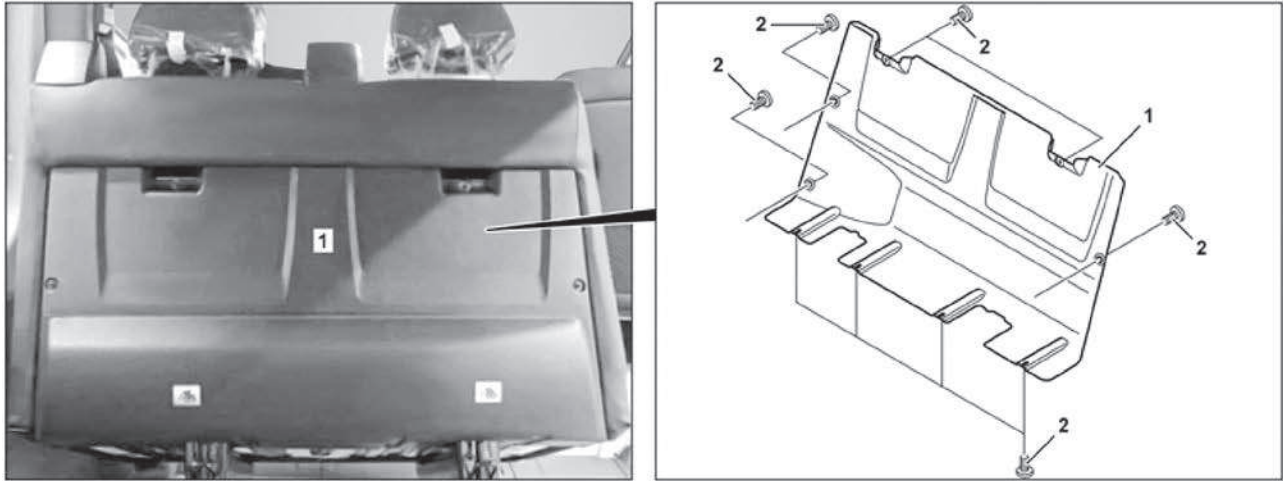

Figure 1
1. Remove bolts (2, Figure 1) then remove seat panel (1).